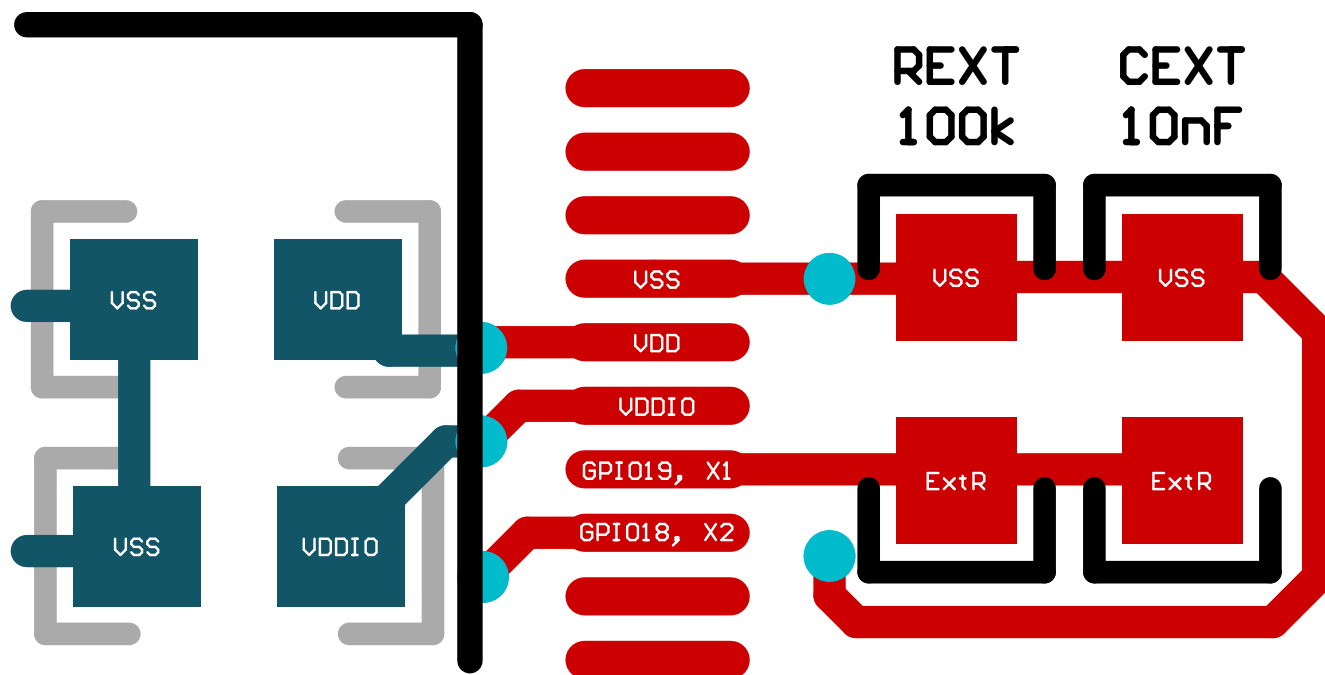

Figure 6-22. ExtR PCB Layout Example
- VSS guard trace is recommended around the ExtR trace as shown in Figure 6-22